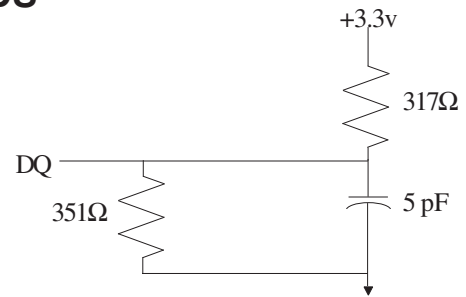

Fig. 2 3.3V I/O OUTPUT LOAD EQUIVALENT
- The load used for V_{OH}, V_{OL} testing is shown in Figure 2 for 3.3V I/O. AC load current is higher than the stated DC values. AC I/O curves are available upon request.
3. This parameter is measured with the output loading shown in Figure 2 for 3.3V I/O.